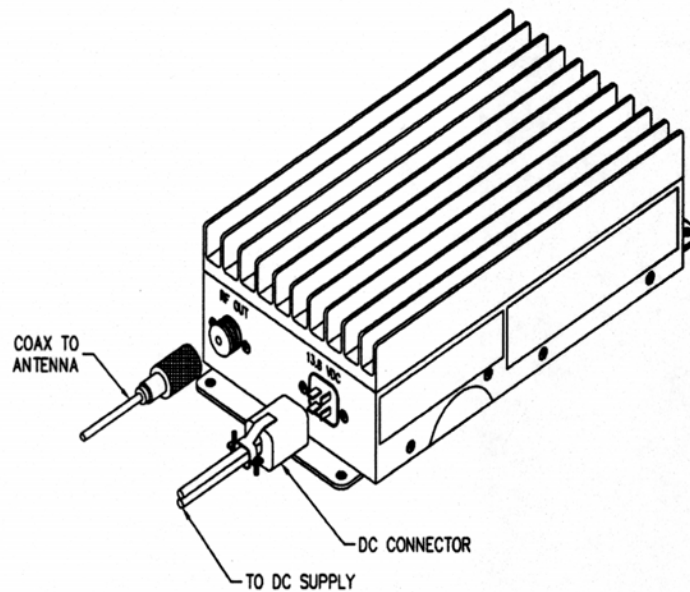

Figure 4. Antenna connection
3. Connect the antenna to the “**RF OUT**” terminal with a 50 Ω coaxial cable and a PL-259 UHF male connector according to figure 4.